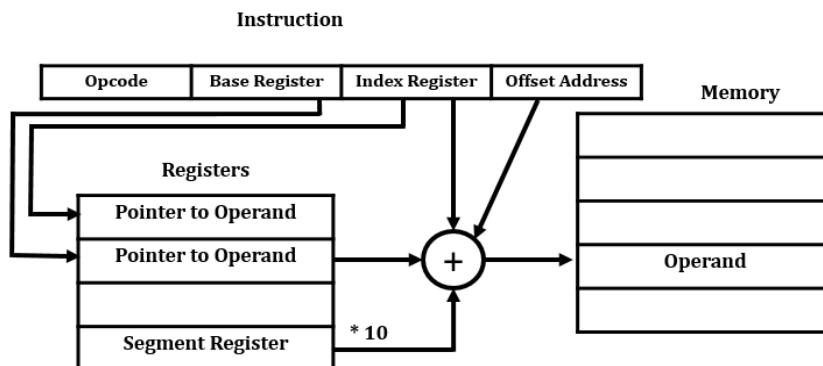

Figure 2.11: Relative Based Indexed Addressing Mode.
- This sum is added with the segment register \* 10 H to generate Effective Address as shown in figure 2.11.